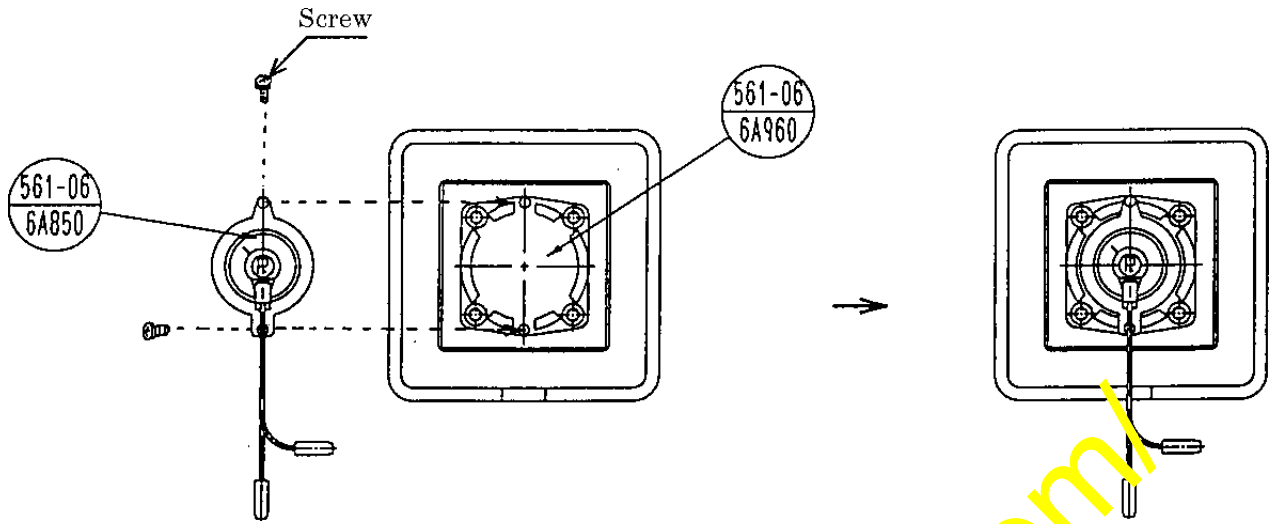

Fig. 3
- 4) Install the new transmitter (561-06-6A850) to the float sensor (561-06-6A960). (Refer to Fig. 3.)